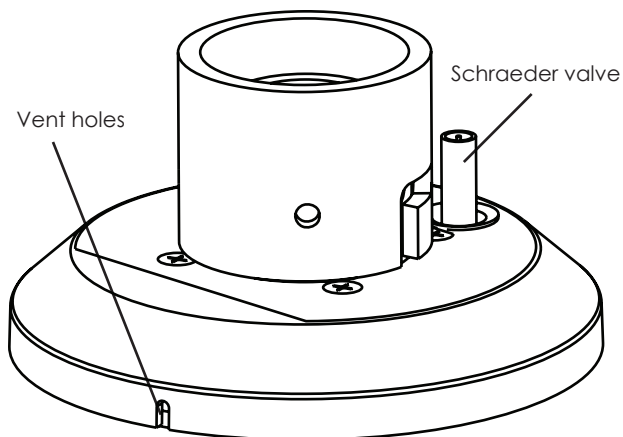

Figure 4
Air is inserted in the enclosure through the Schraeder valve located on the top of the unit. A pressure release valve is located under the housing cap located in this same location. Air vents from the pressure release valve between the housing top and the cap (Figure 4).
Before inserting air into the housing be sure the (2) cap vents are free of obstructions such as ice or debris (Figure 4).